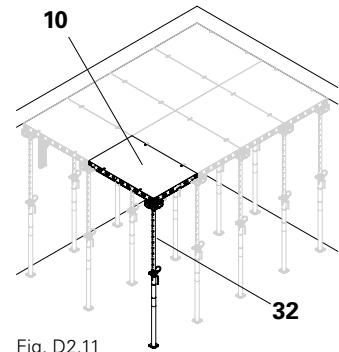

Fig. D2.11
5. Erect the other DP panels (**10**) in the same way. (Fig. D2.11)